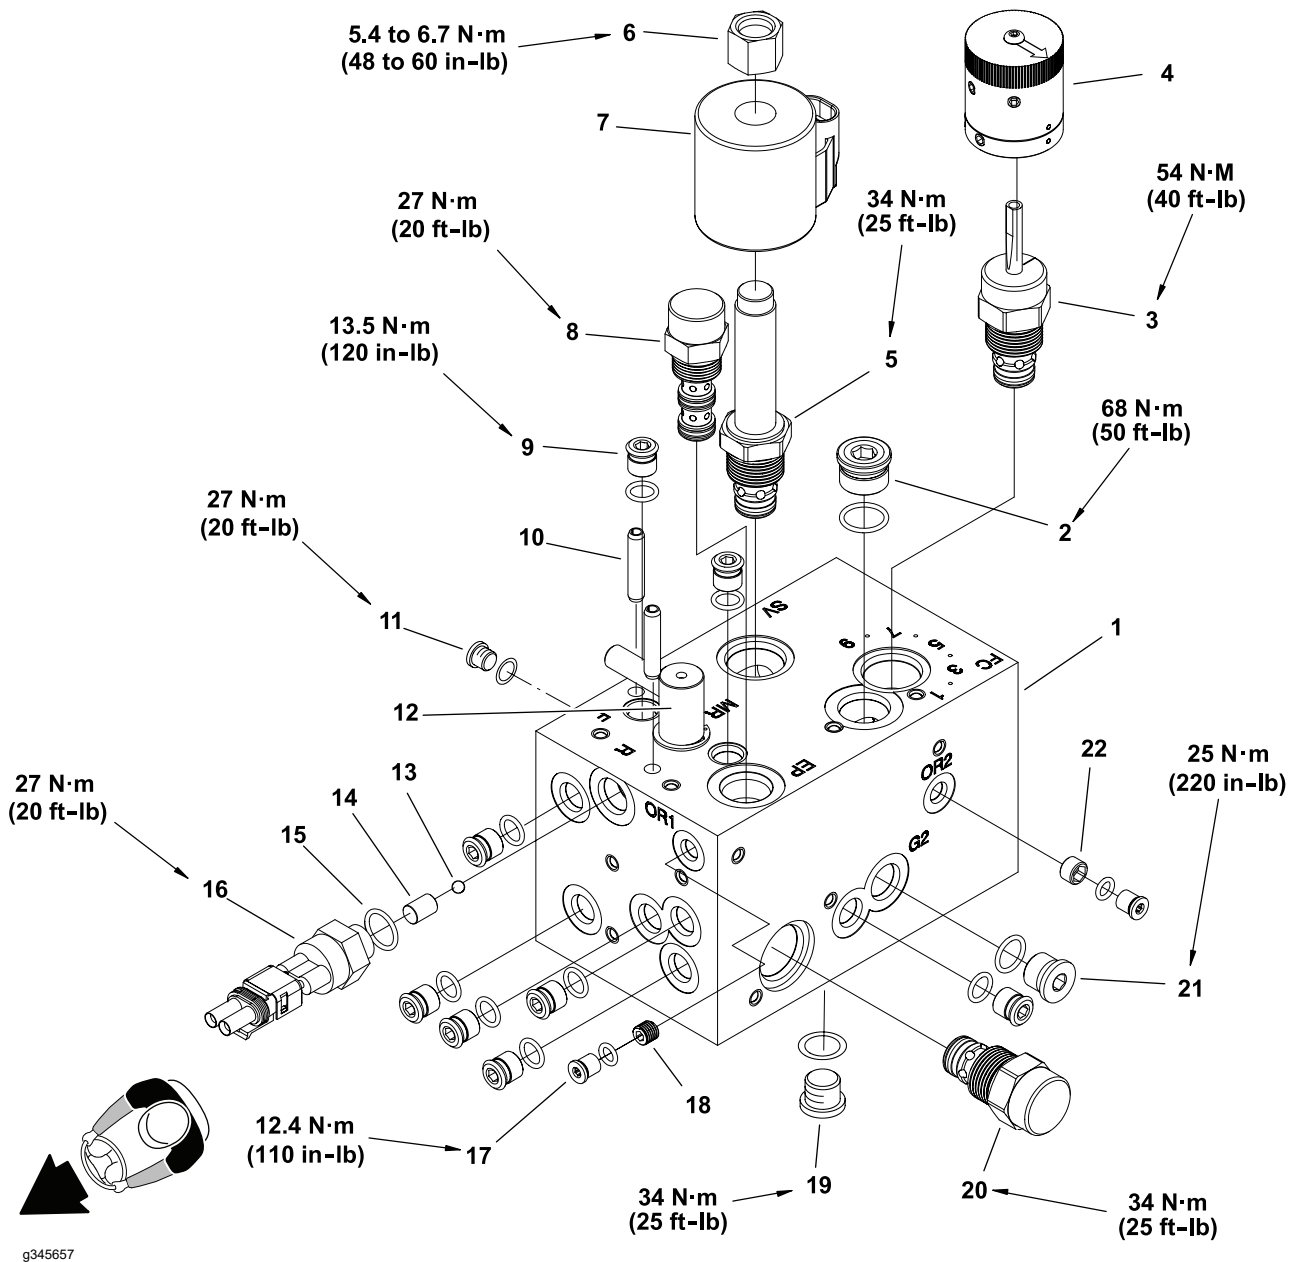
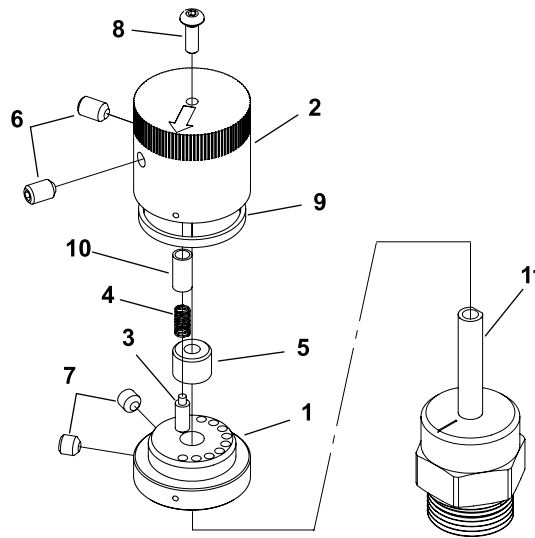
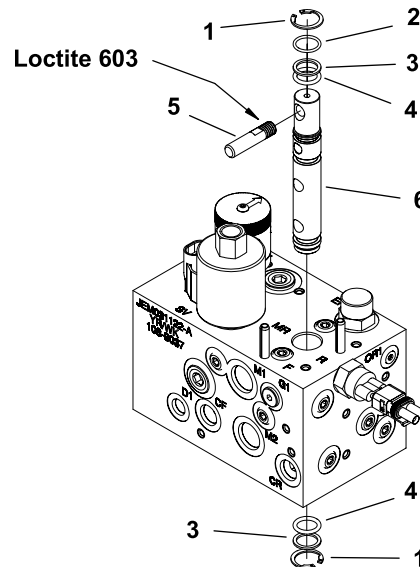

Figure 89
Figure 90
Figure 91
Note: The hydraulic manifold shown in Figure 89 uses several zero leak plugs. These plugs have a tapered sealing surface on the plug head that is designed to resist vibration induced plug loosening. The zero leak plugs also have an O-ring to provide a secondary seal. If zero leak plug removal is necessary, lightly rap the plug head using a punch and hammer before using an allen wrench to remove the plug: the impact will allow plug removal with less chance of damage to the socket head of the plug. When installing plugs into the manifold, torque plugs to the values identified in Figure 89.
1. Remove rotary handle (manifold shown in Figure 89 and Figure 90):
- A. Loosen two (2) set screws that secure handle cap. Remove screw and then lift handle cap from valve.
- 6. Install rotary handle (manifold shown in Figure 89 and Figure 90):
- A. Place handle base on flow control valve and position alignment mark on base with number 1 on manifold. Secure base with two (2) set screws. Apply a light coating of grease to chamfer on top of base to ease seal installation.
Mow/Backlap Spool (Figure 89 and Figure 91)
Mow/Backlap Spool (Figure 89 and Figure 91) (continued)